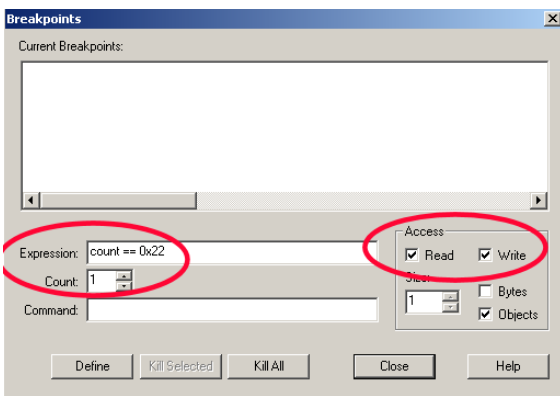

Figure 15: Setting up count
2. Open the Breakpoint window through View/Breakpoints or Ctrl-B. Figure 15 opens up.
3. Watchpoints are created in the bottom half of Figure 15 and are defined and listed in the top half.
4. Enter the count in the bottom half of the Breakpoints window: Figure 15. Click Read and Write.
5. Figure 15 says the program will be halted if the value of 0x22 is written to or read **once** (Count = 1) The other entries are the default settings.